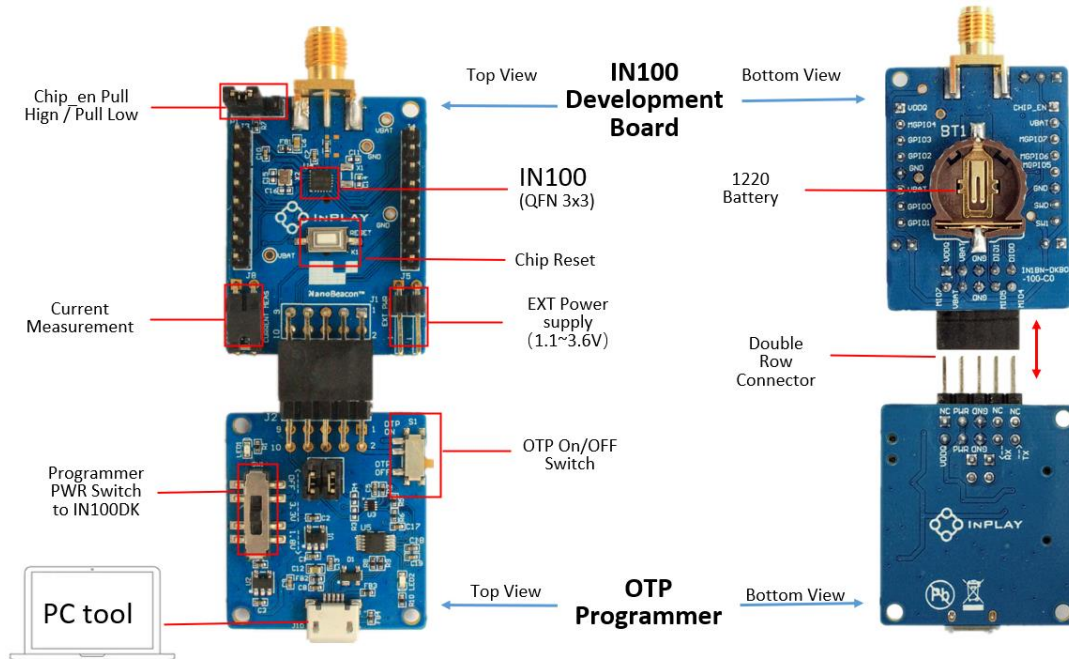

Figure 2 : NanoBeacon development kit (front and back view)
The NanoBeacon development kit (DK) consists of two boards: an OTP programmer board, and an IN100 development board (also referred as a tag or tag board in this document) as shown in Figure 2. The programmer board has a USB to UART adapter to connect to the tag board through an 8-pin connector.
- 2) Connect the programmer board and development board as shown in Figure 2. Connect the programmer board to the PC with a USB cable (as shown in Figure 1). Green and red LEDs on programmer board should light up.